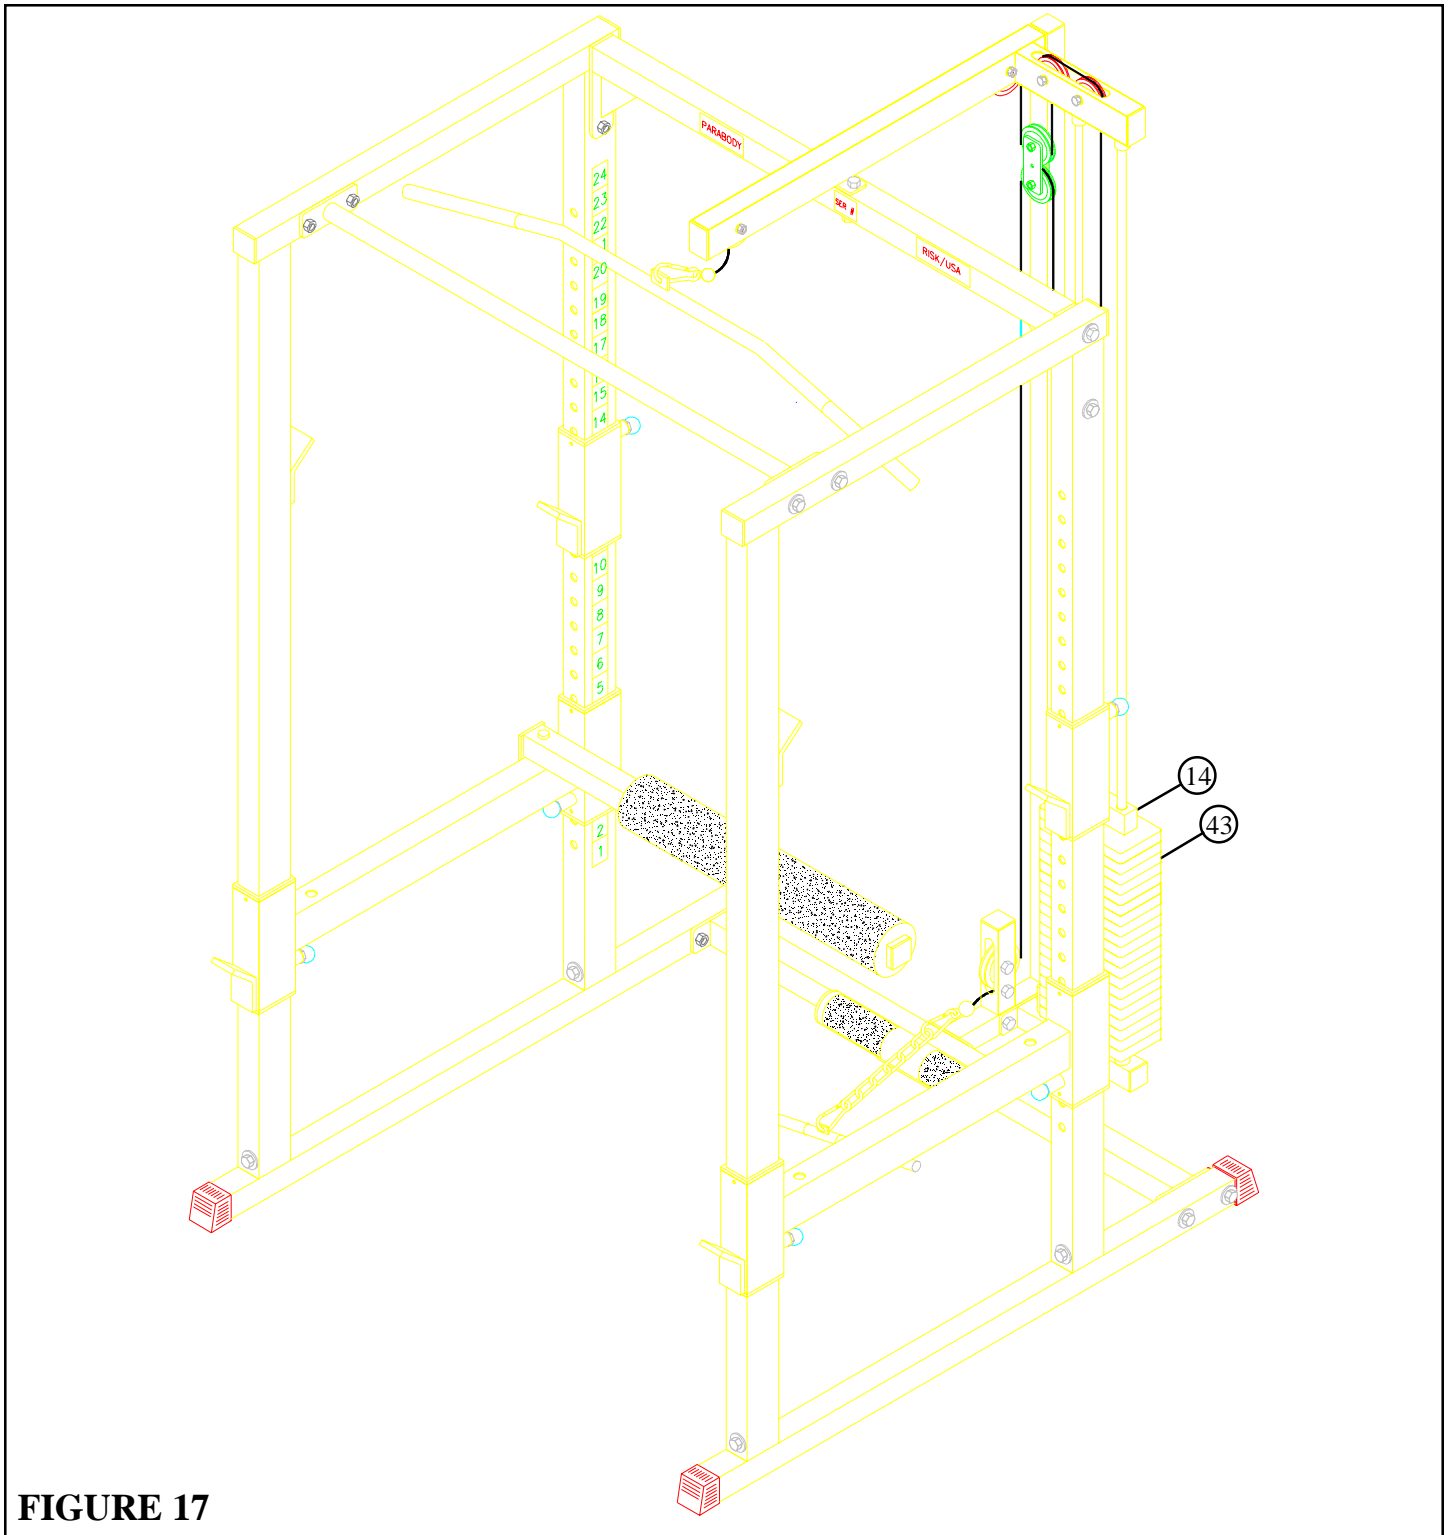

**FIGURE 16**
- When performing the LAT PULL exercise, insert the KNEE SUPPORT (6) into the hole of the SAFETY RAIL as shown in FIGURE 16 and simply lower the SAFETY RAIL down until roller pads contact knees.